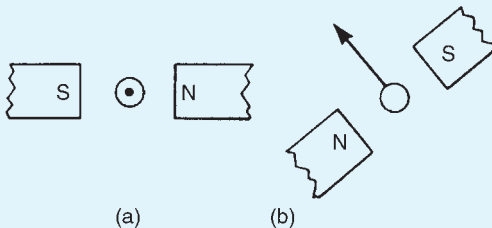

Figure 8.20
3. For the current-carrying conductor lying in the magnetic field shown in Fig. 8.20(a), the direction of the force on the conductor is:
4. For the current-carrying conductor lying in the magnetic field shown in Fig. 8.20(b),